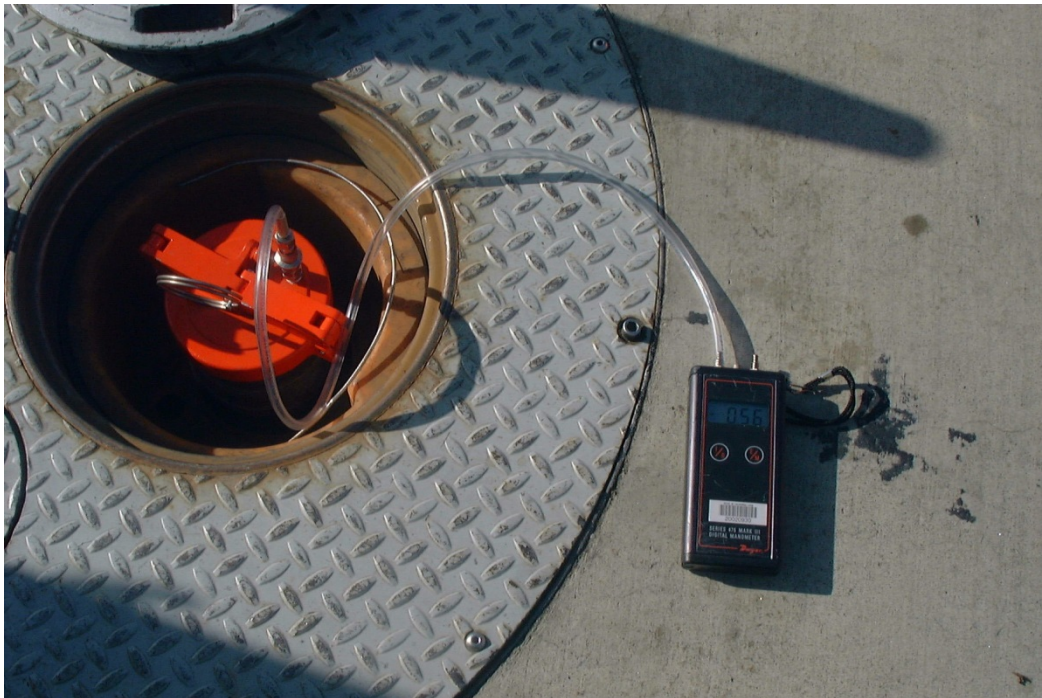

FIGURE 10-2
Determining Ambient Pressure - The Vapor Pressure Sensor (VPS) is subjected to ambient pressure by turning the Vapor Pressure Sensor valve, which is located in the dispenser closest to the tanks, to the Atmospheric Valve Position as shown in Figure 10-2. This test can be performed while product is being dispensed into motor vehicles.
- 8.2 Turn the Vapor Pressure Sensor ball valve to the closed position. This isolates the Vapor Pressure Sensor from the UST ullage space (see Figure 10-2).
- 8.3 Remove the plug from the Vapor Pressure Sensor ball valve (see Figure 10-2).
- 8.1 Reinstall the plug on the Vapor Pressure Sensor ball valve. Turn the ball valve handle to the “normal position” (See Figure 10-2).